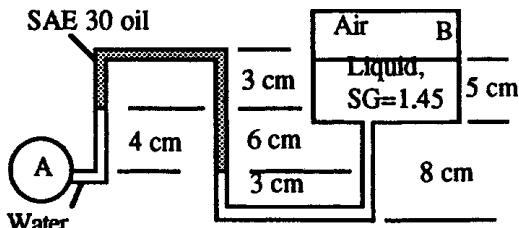

Fig. P2.33
**2.33** In Fig. P2.33 the pressure at point A is 25 psi. All fluids are at  $20^\circ\text{C}$ . What is the air pressure in the closed chamber B?